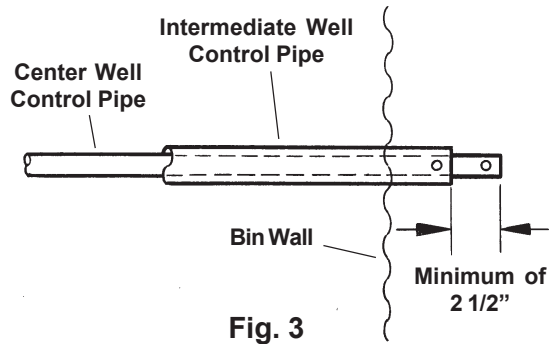

Fig. 3
Configure the control pipe ends as shown in Fig. 3 when all bin well gates are closed. The intermediate well(s) is opened by placing a bolt through the intermediate control end and the center control and then operating the center well control pipe. Intermediate wells should not be opened until the bin has emptied to where grain will no longer flow into the center well.
- C. Check length of control pipe by sliding it through the control pipe of intermediate well(s). When the control pipe is fastened to the control gate clamp, the center well control pipe should extend past the end of the intermediate well control pipe a minimum of 2 1/2". See Fig. 3 on Page 14.